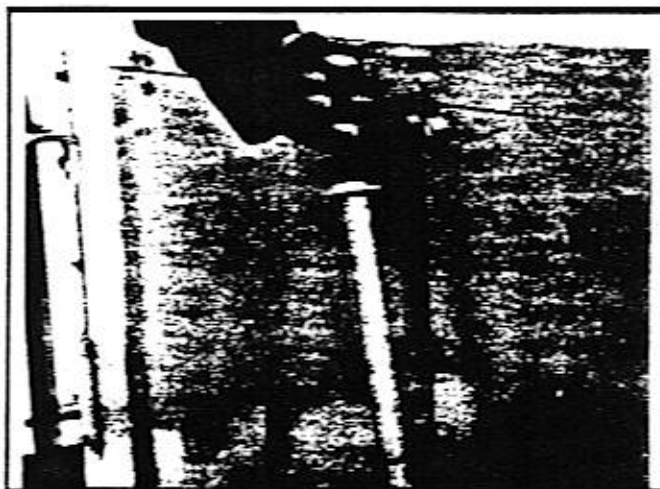

Figure 5-12
10. On units equipped with a hydraulic clutch, position the Cutter Drum toggle switch to ENGAGED. On units with a manual clutch, start cutter drum rotation by moving the Clutch Lever out of the safety latch, with both hands, and pulling all the way to the left. Refer to Figure 5-12. Follow the information on the instruction, warning, and danger decals next to the clutch lever.